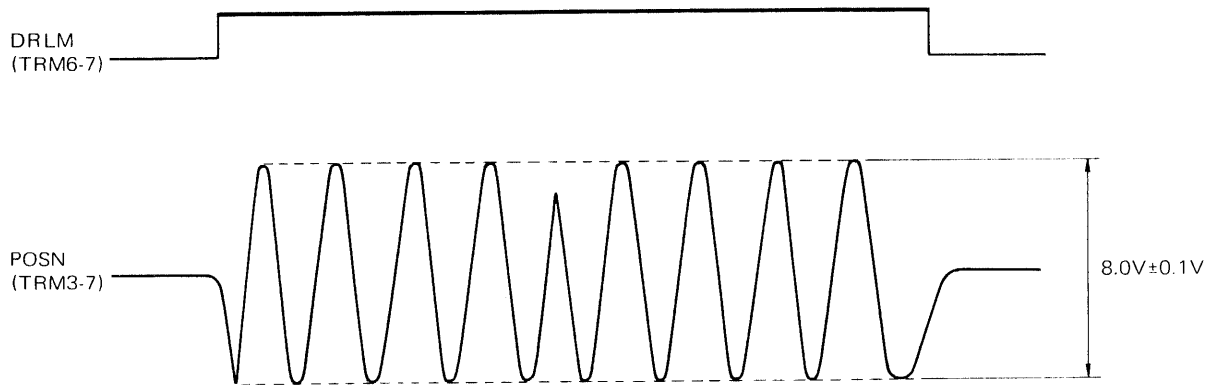

Figure 6-6-4 Position Signal Gain Adjustment
- (1) Confirm that the drive has normal status.
- (2) Repeatedly issue an RTZ command from Cylinder 0.
- (3) Connect the test point TRM6-7 (DRLM) to one vertical input channel of an oscilloscope and trigger with the positive-going edge of the signal on the CZGM PCB (DC coupled).
- (4) Connect test point TRM3-7 (POSN) to the other vertical input channel of the oscilloscope (DC coupled).
- (5) Adjust potentiometer RV4 so that the POSN signal amplitude is $8.0\text{ V} \pm 0.4\text{ V}$ (peak-to-peak). Refer to Figure 6-6-4.